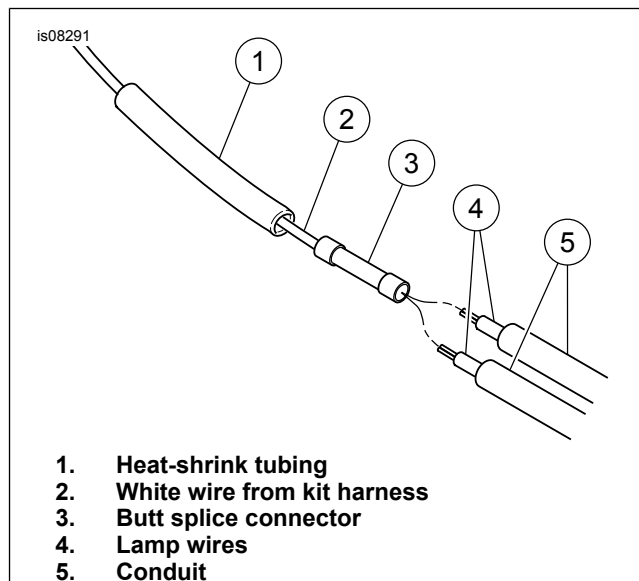

Figure 9. Connect the Lamp Wires to the Kit Harness
20. See Figure 9 and Service Manual. Slide the heat-shrink tubing (1) over the white wire (2) from the kit harness, and crimp the electrical connector (3) to the wire with a Crimp Tool (H-D 38125-8).
21. Bring both lamp wires (4) to the connector. Trim the wires, allowing approximately 1 inch (25 mm) of the wire to extend past the butt splice connector. Trim the conduit (5) approximately 1-1/2 in. (38 mm) back from the end of the wire.